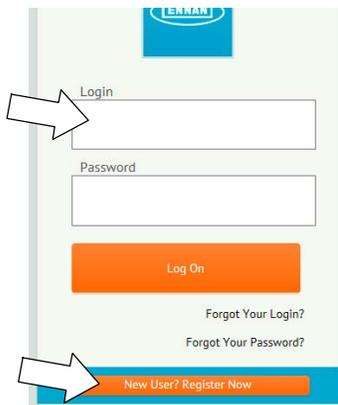

Fig. 26
2. Log on to the “My Tennant™” website or register as a new user (Figure 26).